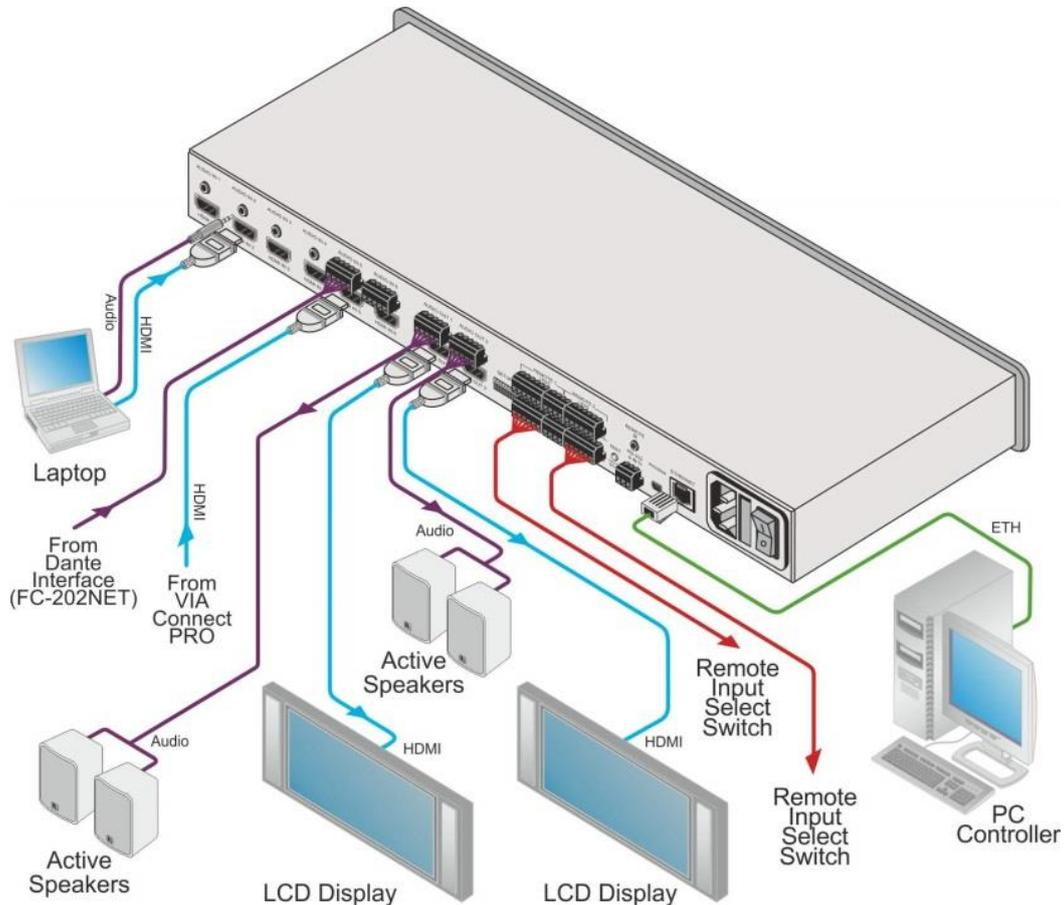

Figure 3: Connecting the VS-62HA 6x2 HDMI/Audio Matrix Switcher
To connect the VS-62HA as illustrated in the example in Figure 3:
8. Connect a power cord to the device and plug it into the mains electricity (not shown in Figure 3).